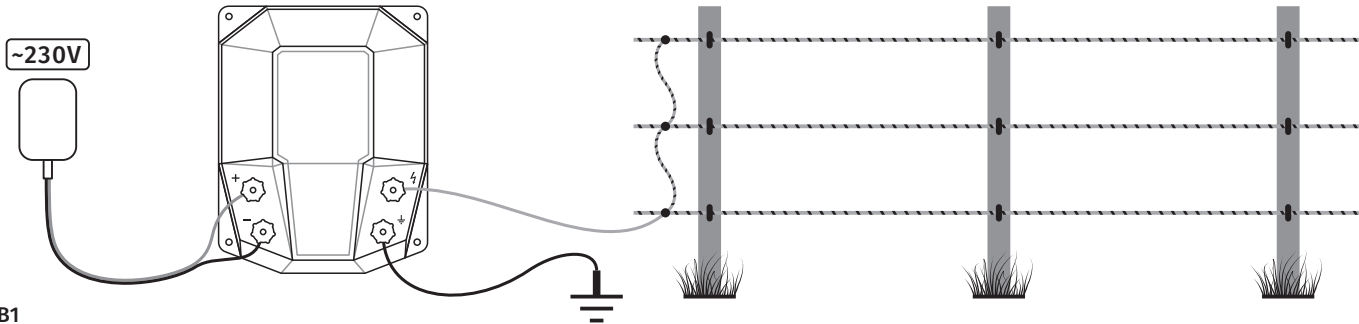

Fig. B1
The device may be powered in three ways, depending on the possibilities (see fig. B1 and B2):
1. Powering from the 230 V network (fig. B1)
The device must be installed in a place protected against moisture. The ideal mounting position is vertical (fig. B1, B2) on a wall or wooden pole, but also works well in horizontal position, for example on a table or shelf.
1. Versorgung durch ein Netzteil 230/12 V (Abb. B1)